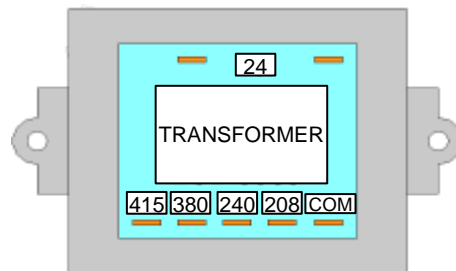

Figure 27
- 2) For a two-wire controller (which has a thermostat) – Connect to the “Y” and “Z” connections of the block labeled “X-Y-Z”. See Figure 27.